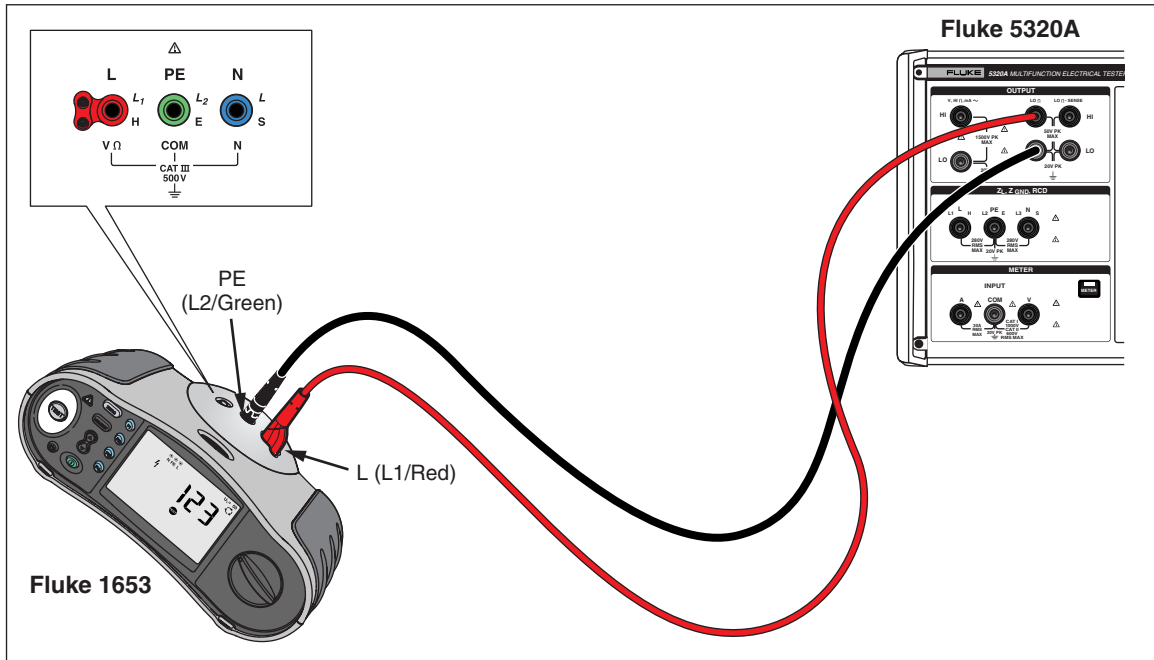

Figure 7-1. Resistance Calibration UUT Connections
1. Using Figure 7-1 for a reference, connect the UUT to the Calibrator's **LO $\Omega$  HI** and **LO** terminals.